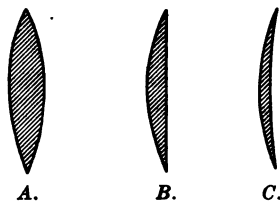
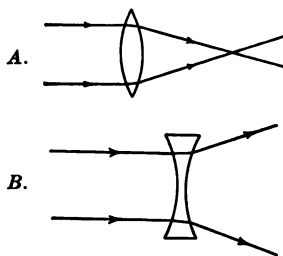
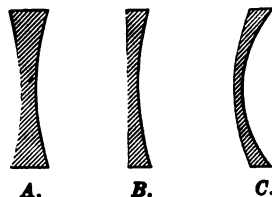

FIG. 310. — Converging lenses. A. Double-convex. B. Plano-convex. C. Concavo-convex.
FIG. 312. — A. Effect of convex lenses. B. Effect of concave lenses.
FIG. 311. — Diverging lenses. A. Double-concave. B. Plano-concave. C. Convexo-concave.
of such lenses are shown in Fig. 310; (2) concave, or diverging lenses, which are thinner at the middle than at the edges. Fig. 311 shows three types of concave lenses. Convex lenses cause parallel rays of light to converge to a point or focus, Fig. 312 A. If rays of light are already converging, their convergence is increased, so that they focus more quickly. When diverging pencils of light pass through a convex lens, their divergence is decreased. Concave lenses produce the opposite effect. See Fig. 312 B. Parallel rays are made diverging; converging